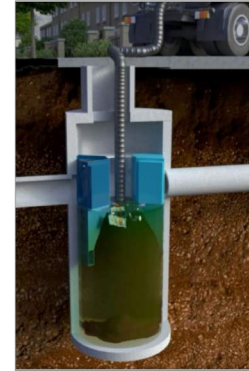

Fig.4 Floatables are removed with a vector hose (First Defense model FD-4, shown).
- Without entering the vessel, look down into the chamber to inspect the inside. Make note of any irregularities. Fig.4 shows the standing water level that should be observed.